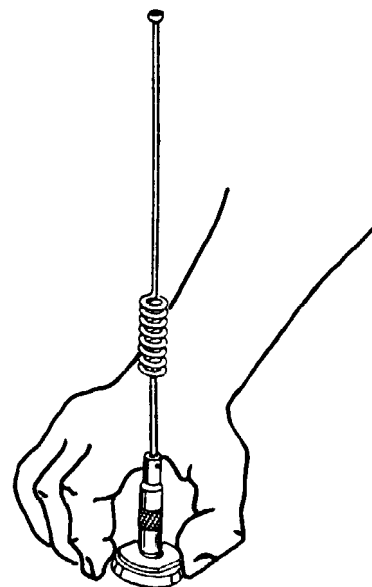

Figure 9.
8. Refer to Figure 9. Slide the metal cap (coupling nut) over the antenna rod assembly until it is in place over the plastic insulator of the whip assembly. Put the whip assembly in place over the locking nut and secure the metal cap to the external threads of the locking nut. With the antenna rod in a perfectly vertical position, tighten the metal cap *by hand* as tight as possible. Then, with 10" adjustable wrench or a 1" open end wrench, tighten no more than an additional 1/2-turn.